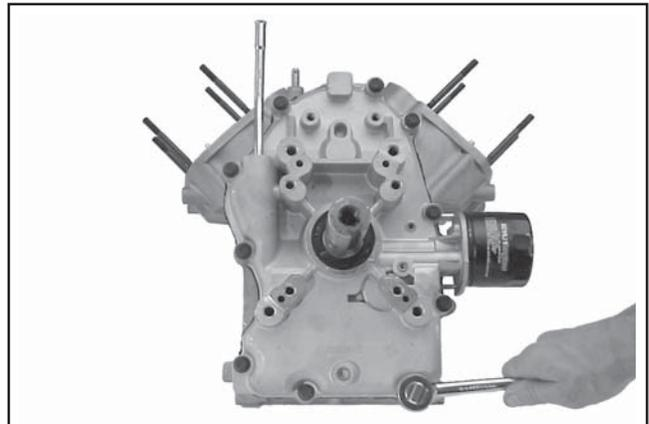

Figure 9-58. Removing Closure Plate Screws.
1. Remove the ten hex flange screws securing the closure plate to the crankcase. See Figure 9-58. If a thick washer is installed under the screw head in the #10 location, and/or one silver (ground) screw is used, (normally the No. 4 or 6 position), note these special assembly details for proper reassembly later.